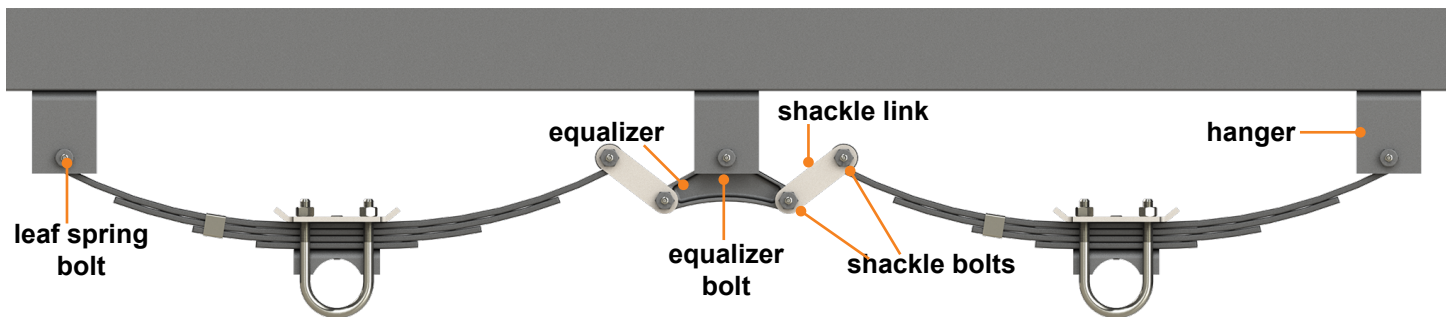

Fig.3
5. With an impact gun or an appropriate wrench, loosen both the nut on the equalizer bolt and the nuts on the shackle bolts (Fig.3).
7. The shackle link assembly with the shackle bolts (Fig.3) should be removed from the leaf spring eyelets.